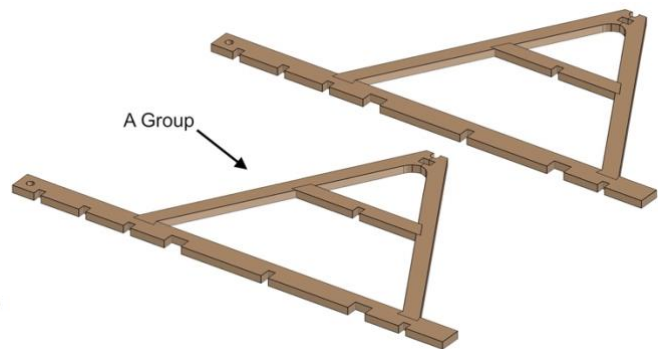

Fig. 4
- *Fig. 4* shows the completed process (make two parts).